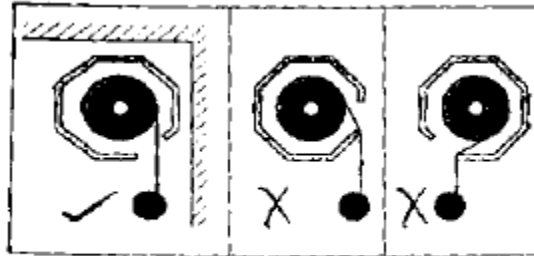

Fig. 5
1. Pull the screen down from the rope or from the handle only in a 90-degree angle. Do not attempt to pull the screen down by the surface or touch the screen, as it will damage the screen and void the warranty. **Fig. 5**